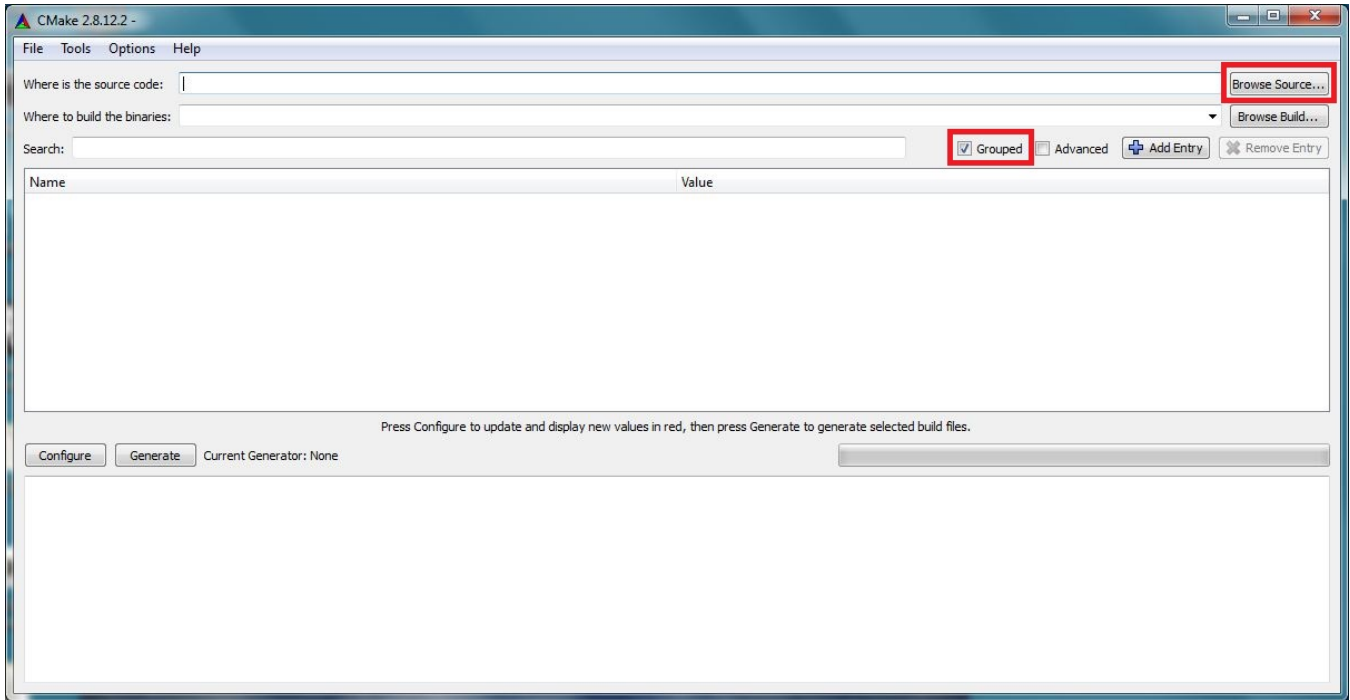

Figure 4-21. Cmake GUI Source Selection
11. Inside of the Cmake GUI, check the box labeled "Grouped." Then click the **Browse Source...** button highlighted in Figure 4-21.